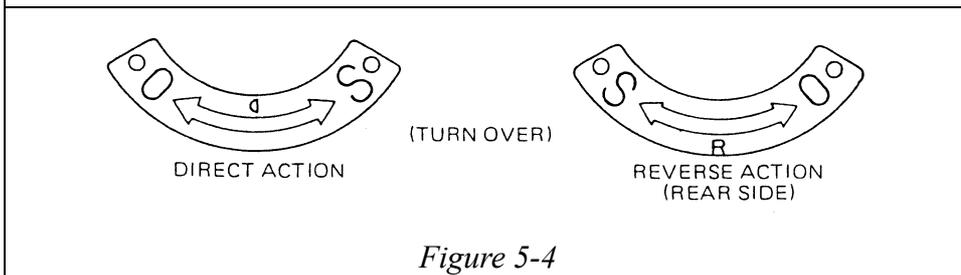

Figure 5-4
- (5) Flip over the direction indicator plate of the handwheel. Make certain that the plate indicates the correct directions for the direct action or the reverse action. (See Figure 5-4.)
- (6) For assembly, follow the above disassembly procedure in the reverse order.